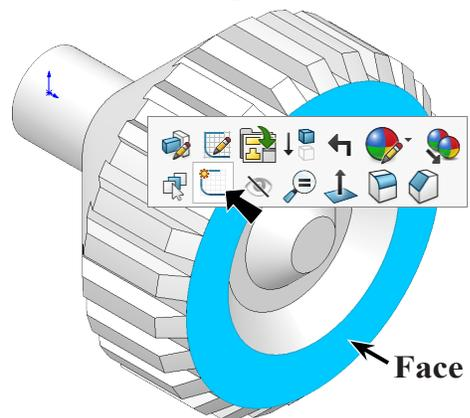

Fig. 22
Step 1. Click the **side face of revolve** and click **Sketch**  on the context toolbar, **Fig. 22**.